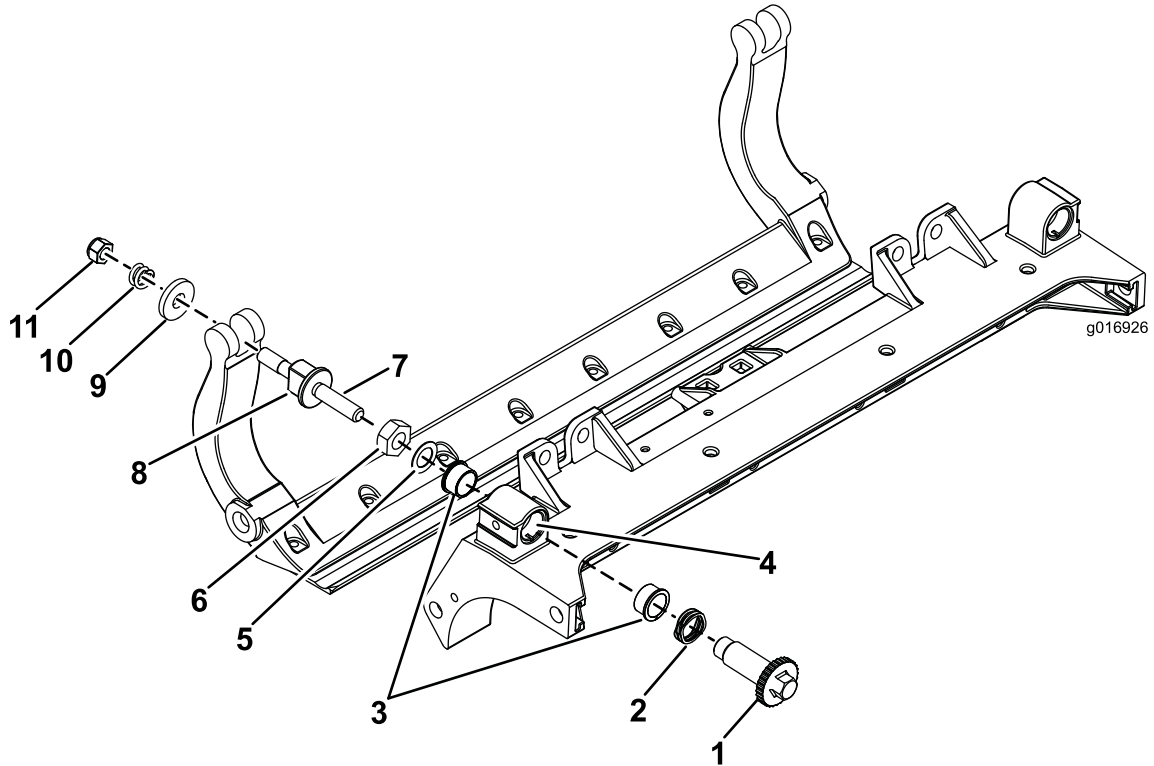

Figure 35
1. Remove all parts (refer to the *Installation Instructions* for the HD DPA Kit and to Figure 35).
2. Apply anti-seize compound to the inside of the bushing area on cutting unit center frame (Figure 35).
3. Align the keys on flange bushings to the slots in the frame and install the bushings (Figure 35).
4. Install a wave washer onto the adjuster shaft and slide the adjuster shaft into the flange bushings in the frame of the cutting unit (Figure 35).
5. Secure the adjuster shaft with a flat washer and locknut (Figure 35).
12. Place a steel washer outside each of the nylon washers (Figure 35).
Note: Washers on the inside may have a gap (Figure 35).
15. Tighten the nut on each bedbar-adjuster assembly until the compression spring is fully compressed, then loosen the nut 1/2 turn (Figure 35).